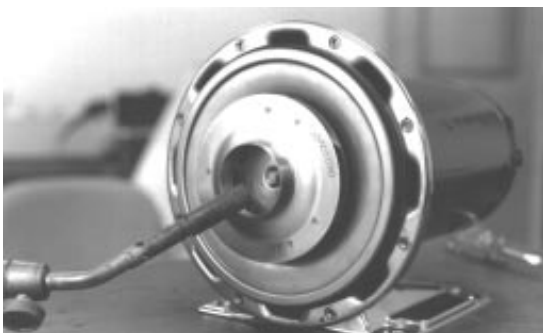

FIGURE 4 – Heat impeller hub to break adhesive bond.
3. Remove the shaft cover from the back of the motor to expose the slot in the motor shaft. (Depending on motor manufacturer, the shaft cover may be a button plug or a total cover.) Impeller removal on pumps without impeller locknuts: The impeller hub must be heated to break the adhesive bond so the impeller can be removed from the motor shaft. Using a propane torch, heat the impeller hub from the inside of the impeller eye, Figure 4. With a glove on one hand, grip the impeller O.D. and turn counterclockwise while holding the motor shaft with a large screwdriver, Figure 5. Remove the impeller, the seal spring, the seal head (use a screwdriver if necessary), and the coverplate. Impeller removal for pumps with impeller lockout: While holding the motor shaft with a large screwdriver remove the impeller locknut and then the impeller. The locknut adhesive may cause the impeller to be hard to remove. If so, heat can be applied.